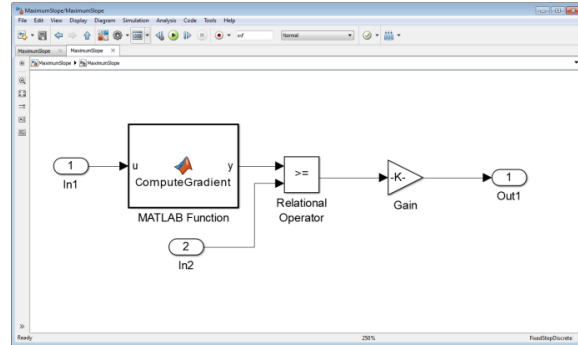

Figure 32: Maximum slope subsystem
3. Rename the **Subsystem** as **MaximumSlope**, double click it and build the algorithm subsystem with the blocks of the above table, as in **Figure 32**.